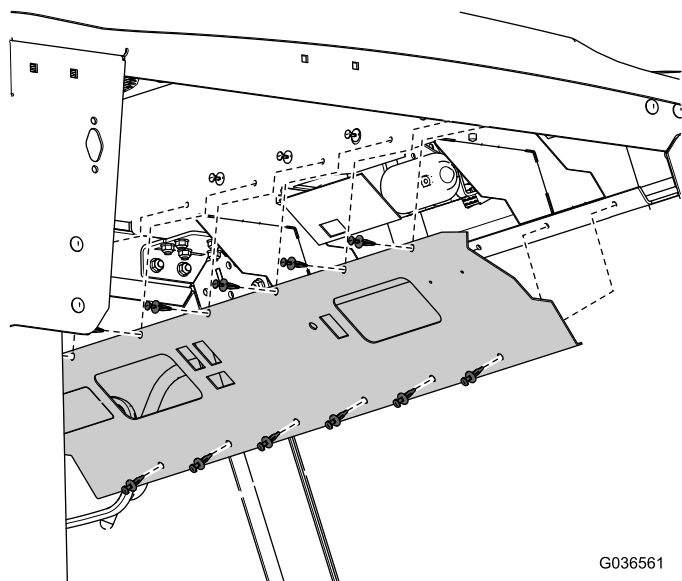

Figura 1
4. Retire el panel delantero (Figura 1).